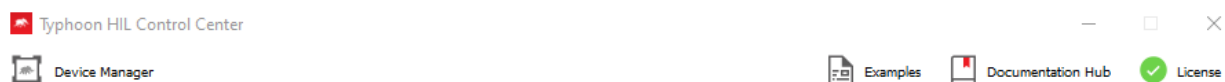

Figure 6.3. Successfully imported license
- If the license file is correctly imported license button will be green as in the Figure 6.3: